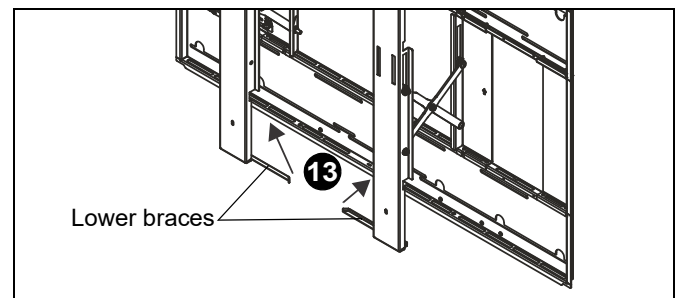

Figure 13
13. Extend lower braces (on scissors assembly) so that they prop against bottom edge of the rear frame. (See Figure 13)